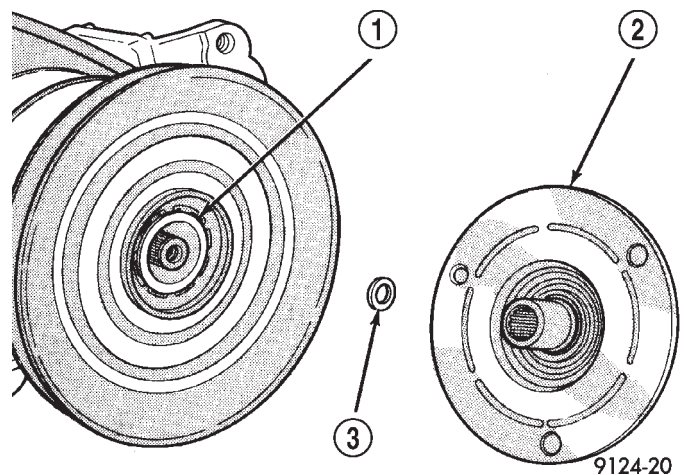

Fig. 6 Clutch Plate and Shim
(4) Tap the clutch plate with a plastic mallet to release it from the splines on the compressor shaft. Remove the clutch plate and shim(s) from the compressor shaft (Fig. 6).